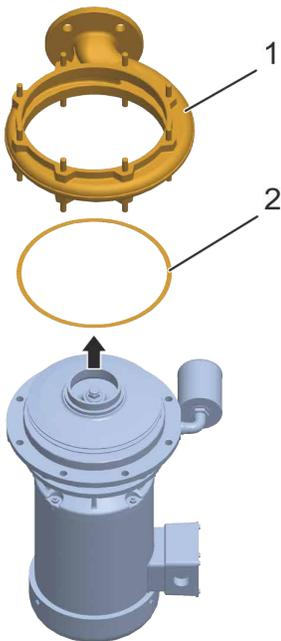

Fig. 70 Removing the pump casing (example: herborner.F-N)
Carefully lift the loosened pump casing off the intermediate casing (Fig. 70/1).
23. Remove the gasket (Fig. 70/2) and place to one side for later assembly.